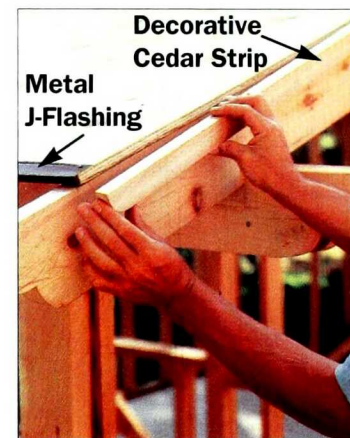

Figure 14: Protect the edges of plywood from moisture and humidity with 1x2 cedar on the gable ends and metal J-flashing at eaves.
- Cover the exposed edges with flashing and cedar strips (Figure 14) before shingling.